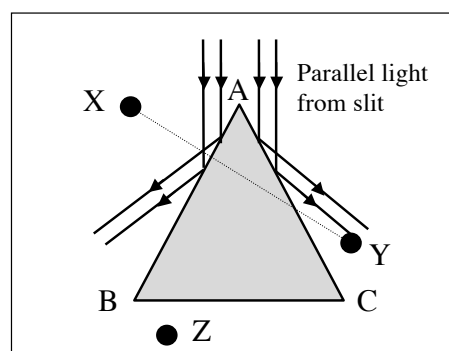

Figure 2 Setting up the spectrometer
- Place the prism on the table with its refracting edge pointing to the collimator and one of its refracting faces AB perpendicular to the line XY joining two of the levelling screws, as in figure 2. View the slit by reflection in AB, and by adjusting X and Y centre the image on the telescope's cross-wires. Repeat this for reflections in the face AC but this time adjust *only* screw Z. Check the reflection in AB and make small adjustments to X and Y, going through the sequence again if necessary until both faces reflect the light centrally down the telescope. The prism on its table is now adjusted.
- With the prism as shown in figure 2 and the prism table securely clamped, set the image of the slit, reflected in face AB, as accurately as you can across the intersection of the cross-wires, clamping the telescope and using the fine movement screw for the last delicate adjustment. Record *both* vernier scales which register the telescope's angular position. Unclamp the telescope and set it equally carefully to view the slit reflected in face AC, and again record its angular position on both scales. The *difference* between the two settings is $2A$. Take the average of your two determinations.